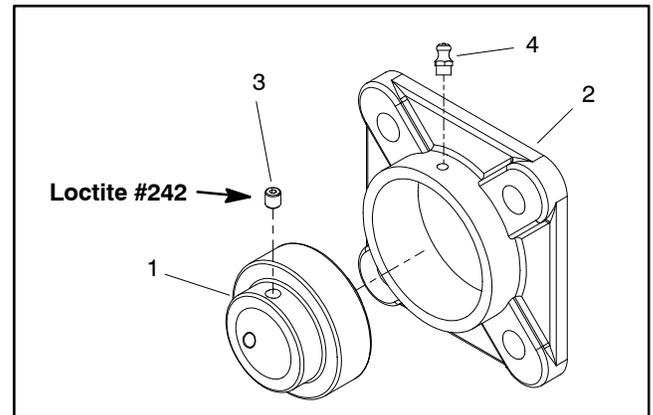

Figure 5
4. Loosen two (2) set screws that secure each bearing locking collar to roller shaft (Fig. 5).
5. Remove four (4) cap screws and lock nuts that secure both vertical roller bars (item 7) to aerator frame.